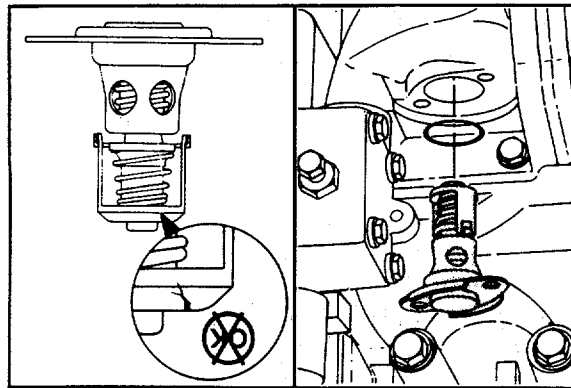

FIGURE 2-1. Oil Cooler Bypass Valve.
- Check oil cooler bypass valve operation (FIGURE 2-1).